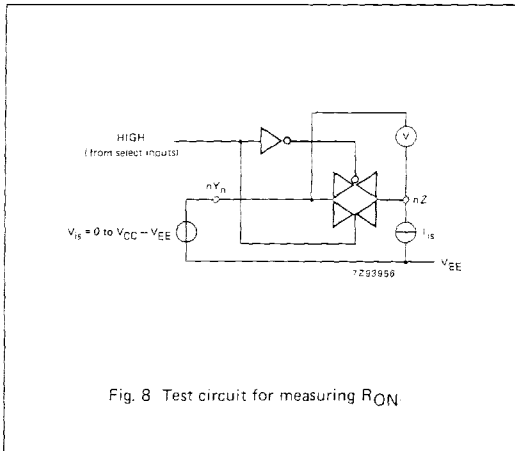

Fig. 8 Test circuit for measuring R_{ON}
- For test circuit measuring R_{ON} see Fig. 8.